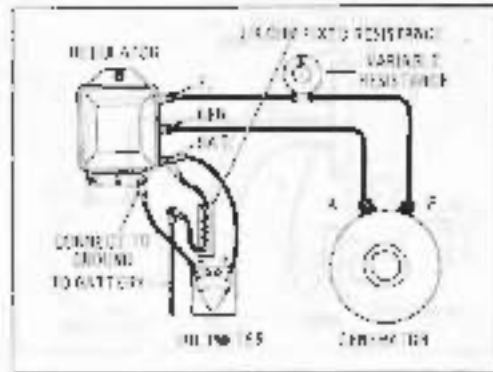

Figure 51-3.
C. TESTING VOLTAGE CONTROL UNIT SETTING (FIG. 51-3)